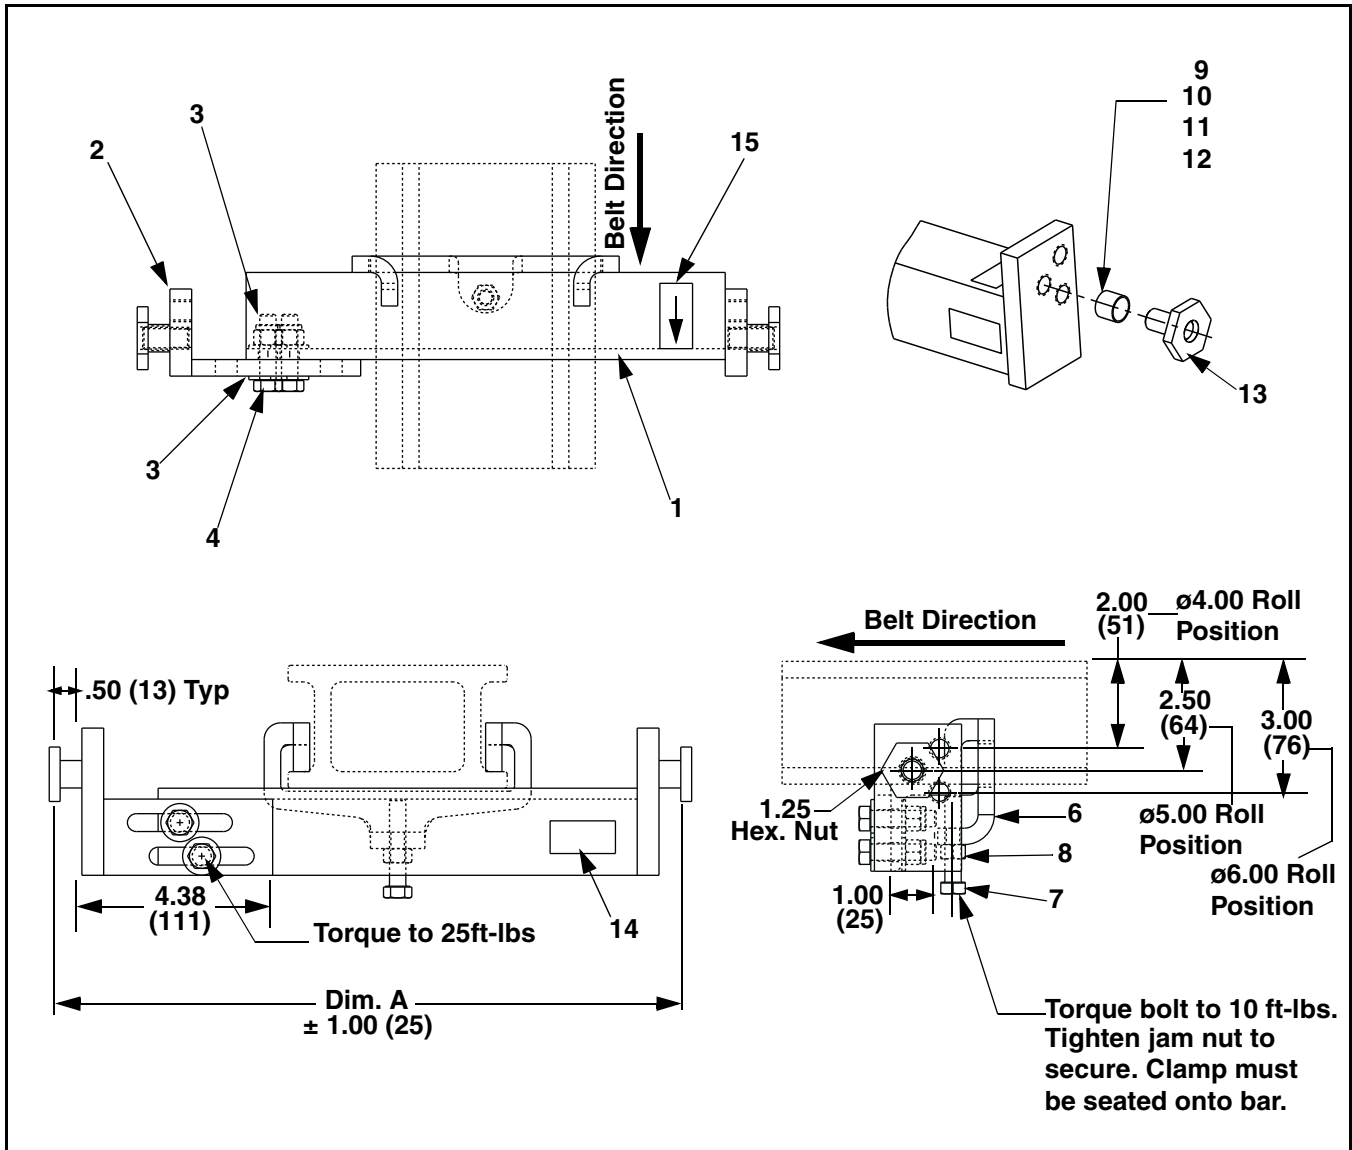

Figure 2a. Martin® Idler Conversion Kit Assembly P/N 37135-KXX
- Martin® Idler Conversion Kit Single Bar or Double Bar Cradle Assembly. Refer to Figure 2a for Assembly Drawing.
Refer to Figures 2a and 2b.
See Figures 2a and 2b